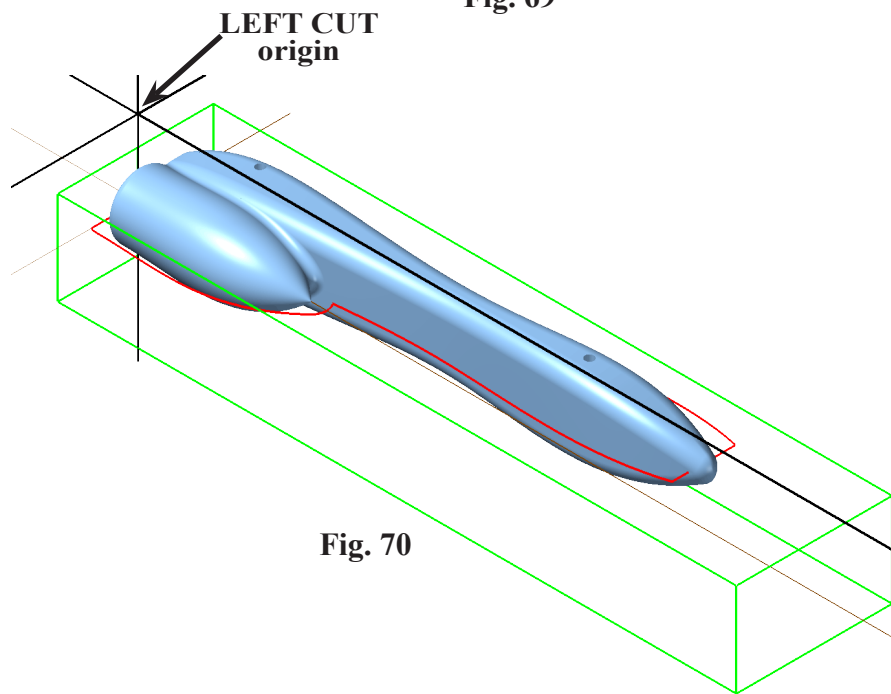

Fig. 70
- Step 8. Confirm the origin. Use **F9** to show the axes, **Fig. 70**.